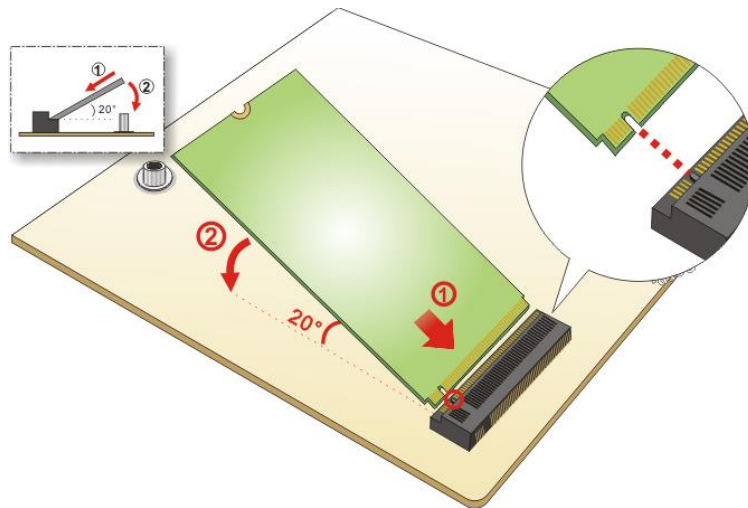

Figure 4-3: Inserting the M.2 Module into the Slot at an Angle
Step 3: Line up the notch on the module with the notch on the slot. Slide the M.2 module into the socket at an angle of about 20° (Figure 4-3).